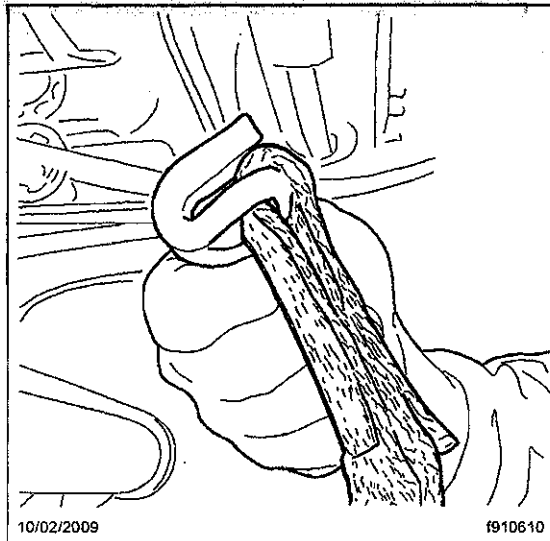

Fig. 6, Pulldown Strap Installation
16. Hook the pulldown straps to the seat belt pretensioner cable. See Fig. 6.